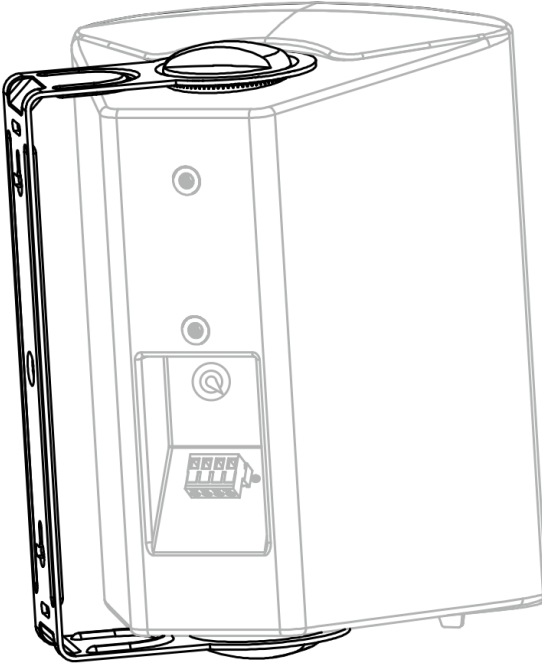

Figure 3: Yarden 5-O with Brackets Connected
4. Align the bracket screw holes (upper and lower) to those on the speaker and screw a knob to each of the holes to secure the speaker to the bracket (see Figure 3).